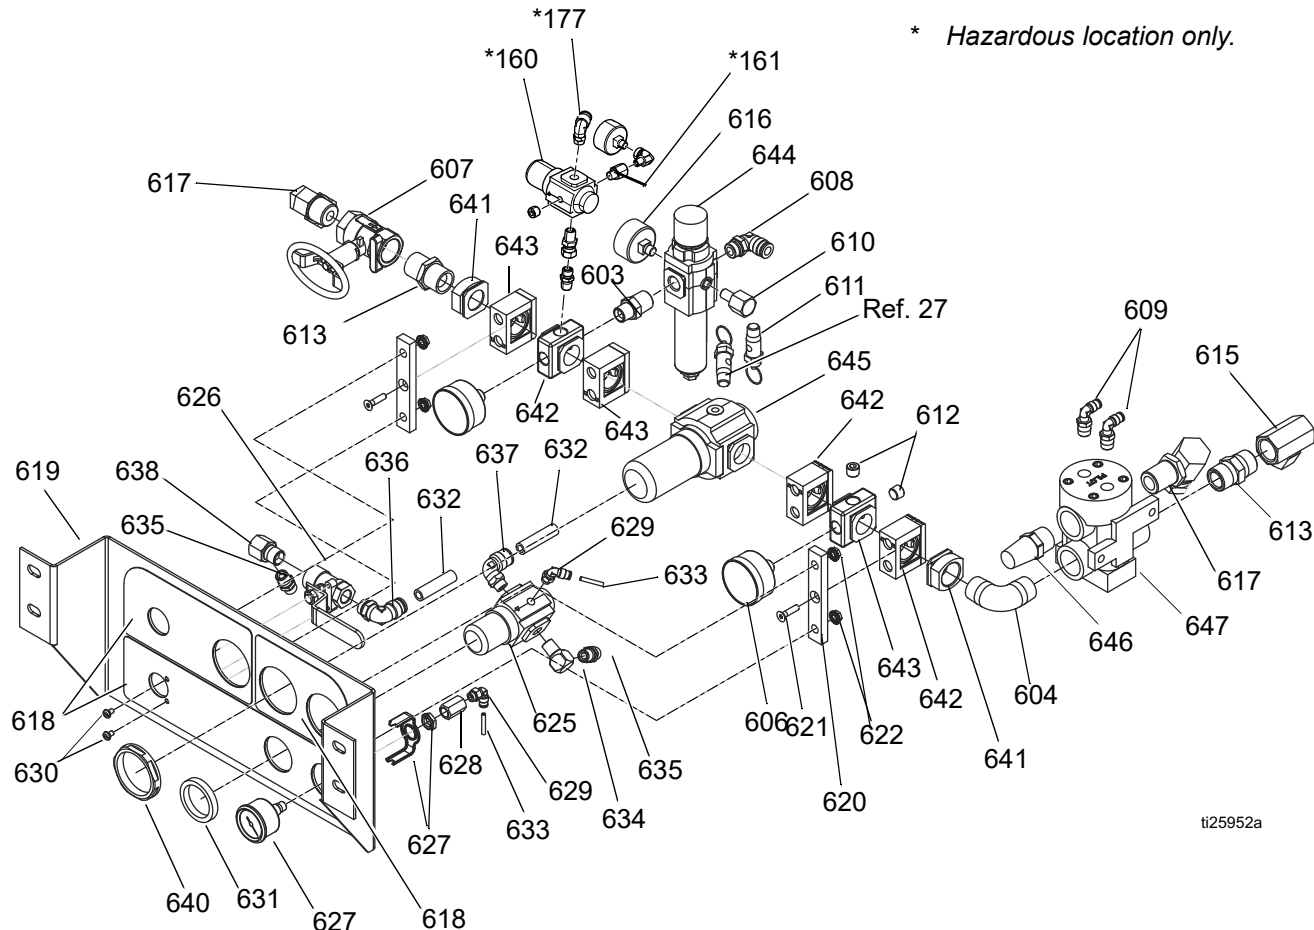

FIG. 5: Air Control Assembly (18)
3. Remove four nuts (17) from front of air controls (18). See FIG. 5, page 24.
4. Pull out assembly (18).
1. **Remove Air Control Assembly (18).**
2. Remove two nuts (630) from front of air control bracket (619). See FIG. 5, page 24.
3. Disconnect air line (632) running to ball valve assembly (626).
2. Remove regulator nut (631), and disconnect air lines (632, 633) running to regulator (625). See FIG. 5 on page 24.
2. Remove regulator nut and disconnect system air line. See FIG. 5, page 24.
3. Remove screws from quick clamps and open clamps (642) at hinge.
4. Remove regulator assembly (645) and replace with new.